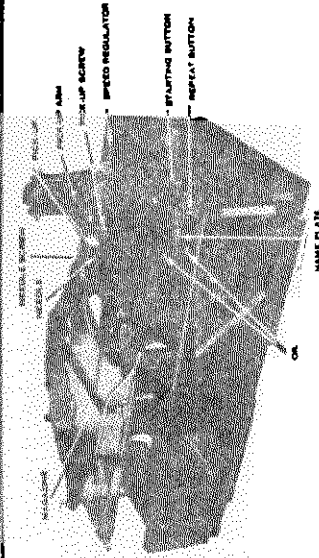

FIGURE 5
In case it is desired to play the same record over, the repeat Button *figure 5* is moved to the left. This moves Repeat Lever 806 *figure 2* causing it to press against Drive Dog 822 causing the Dog to recede and not catch on Eject Drive Arm 790. Eject Drive Arm 790 remains stationary and the Eject Slide does not move. The Cam revolves and the Turntable goes through all of the elevating positions except the discard elevation. Eject Arm 790 does not allow Roller 845 to drop to the discard elevation in Cam 789 *figure 1*, thus the record will be repeated until the Repeat Lever is moved to the right.
In starting or rejecting records, the Starting Button *figure 5* is pressed. When this Button is pressed slightly, it causes the contacts in switch 897-A *figure 2* to be spread apart which changes the fields in the motor from a series connection to a parallel connection for a greater starting torque. Pressing down further causes Lever 662 *figure 2* to act against Throwout Lever Trip 814 and trip mechanism which discards the record. This is the same action as though it were tripped with the Dogs 813 or 814.
upper side of the motor board *figure 5* are two (2) pipe plugs marked "OIL." Remove these plugs and inject a quantity of oil in the tubes under them. This lubricates both armature shaft bearings. The wick type oil wells used on the bearings keep the bearings well lubricated for a six (6) months period of normal operation.